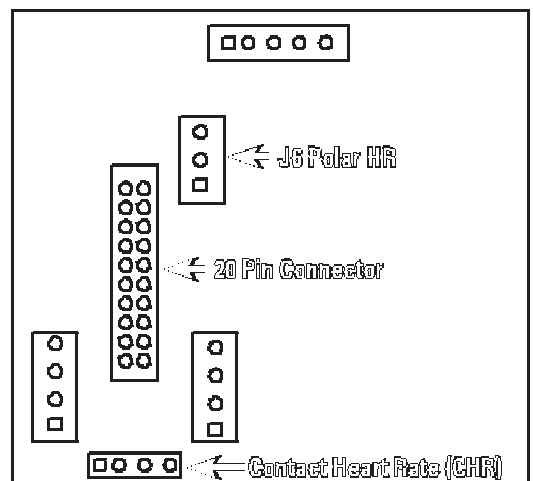

Figure 11
- 6-2** Remove CHR and J6 Polar HR cables from the back of the console connected to the PC board (see Figure 11).